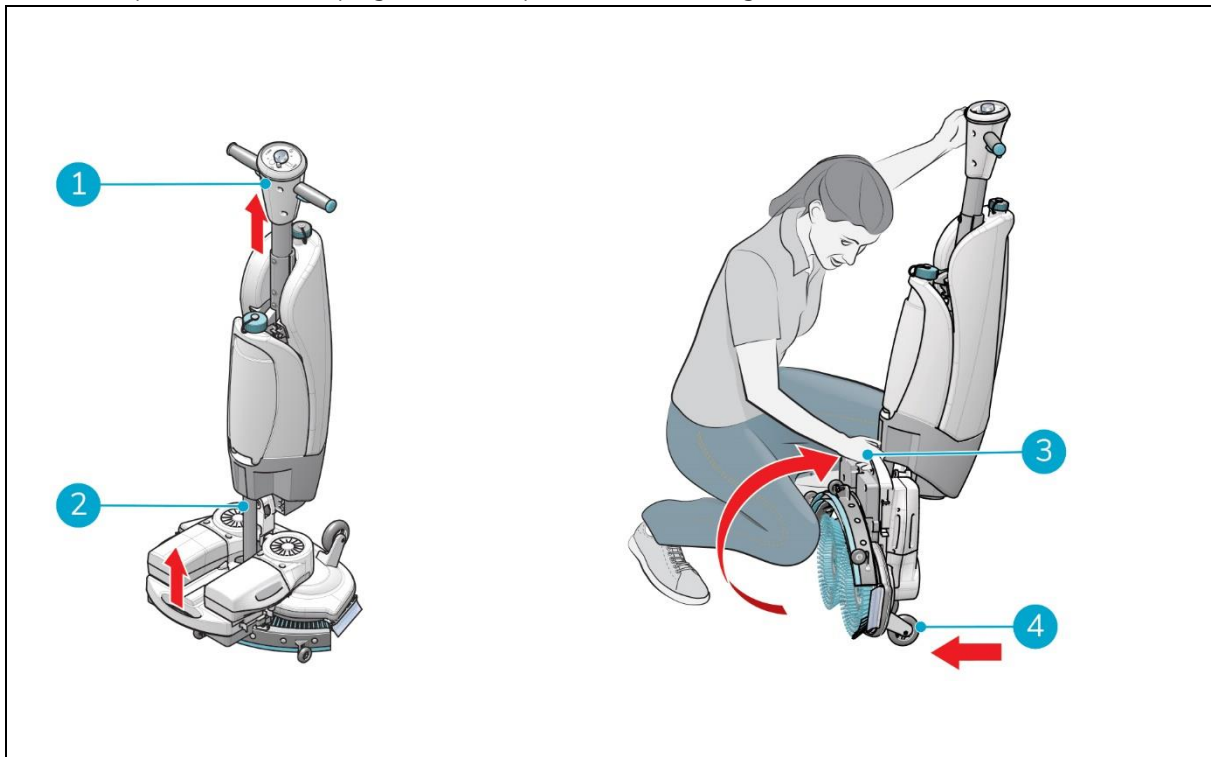

Figure 4
1. Make sure the vacuum hose (Figure 4, pos 2) is pushed back into the machine so it cannot get squeezed.
1. Crouch down and hold the handle (Figure 4, pos 1) with one hand while holding the scrub deck (Figure 4, pos 3) with your other hand.
2. Lift the scrub deck slowly until it stands upright on the front wheels (Figure 4, pos 4). Guide the body towards the scrub deck until it snaps into a resting position.